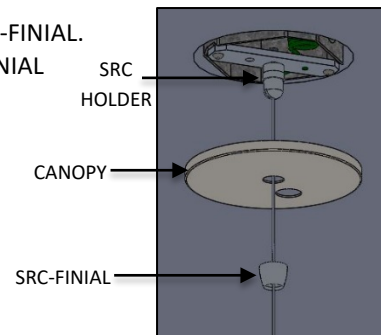

FIG. 16 – CANOPY INSTALLATION
13. Pass the remaining Aircraft cable through the canopy and SRC-FINIAL. Loosely secure CANOPY to the ceiling by threading the SRC-FINIAL to the SRC-HOLDER as shown in FIG. 16.